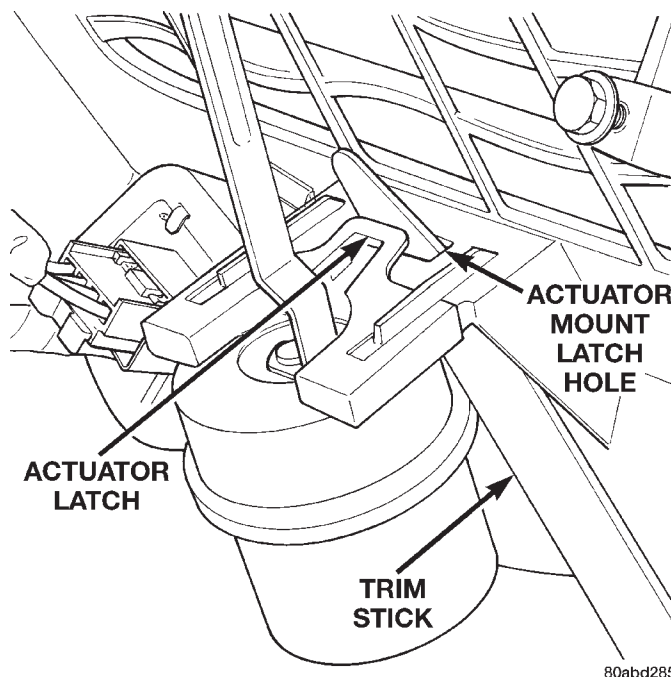

Fig. 45 Vacuum Actuator Remove/Install - Typical
- (4) Insert a trim stick or another suitable wide flat-bladed tool into the latch hole on the heater-A/C housing actuator mount (Fig. 45). Gently pry the actuator latch while pulling firmly outwards on the actuator to remove the actuator from the mount.
- (5) Rotate and tilt the vacuum actuator as required to disengage the hole on the end of the actuator link from the hooked pin on the end of the floor door lever.
- (6) Remove the floor door vacuum actuator from the vehicle.
- (7) Reverse the removal procedures to install.
- (3) Insert a trim stick or another suitable wide flat-bladed tool into the latch hole on the heater-A/C housing actuator mount (Fig. 45). Gently pry the actuator latch while pulling firmly outwards on the actuator to remove the actuator from the mount.
- (4) Rotate and tilt the vacuum actuator as required to disengage the hole on the end of the actuator link from the hooked pin on the end of the panel/demist door lever.
- (5) Remove the panel/demist door vacuum actuator from the vehicle.
- (6) Reverse the removal procedures to install.
- (4) Insert a trim stick or another suitable wide flat-bladed tool into the latch hole on the heater-A/C housing actuator mount (Fig. 45). Gently pry the